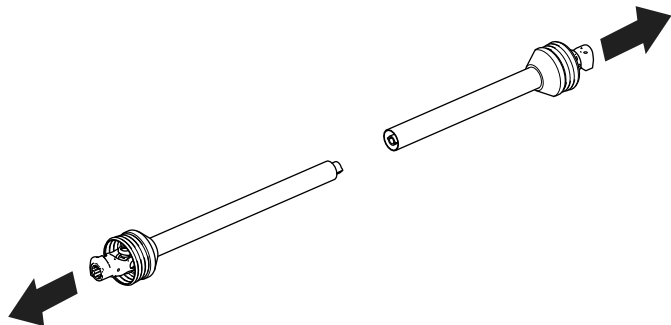

Figure 11
3. Pull the PTO driveshaft sections apart (Figure 11).